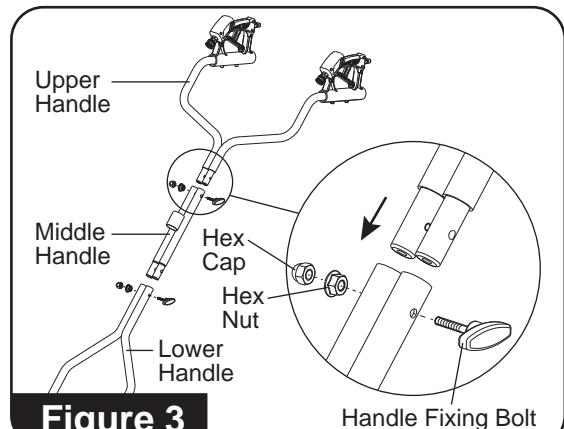

Figure 3
**NOTE:** Make sure hex nut is aligned as shown. **(See Figure 3)**